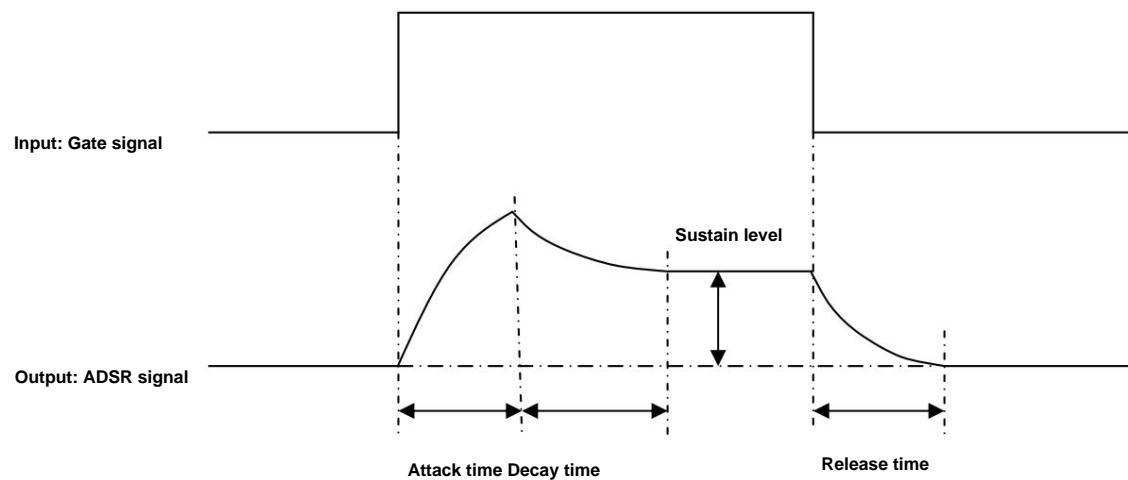

Figure 2-2 Inputs and outputs of the envelope generator
Figure 2-2 illustrates the relationship between the EG's inputs and outputs. First, in the initial state with no gate input, the output is also zero. When the gate signal rises, the EG starts operating. First, the output rises from zero to the maximum. This rise time is set by Attack Time (A). Attenuation begins when the output reaches its maximum. This speed is set by Decay Time (D). As long as there is a gate input, it will settle to the level set by Sustain Level (S) after attenuation.